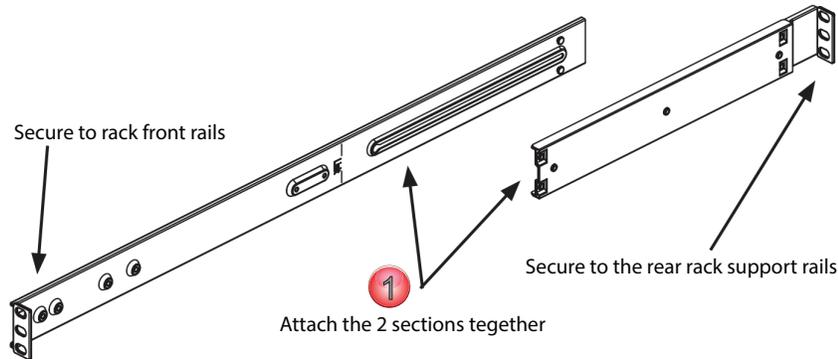

Figure 3-3: Install Rail Sections
1. Attach the longer section of the outer rail to the outside of the shorter section of the outer rail, Figure 3-3. You must align the pins with the slides. Both ends of the outer rail must face the same direction in order to be secured to the rack.